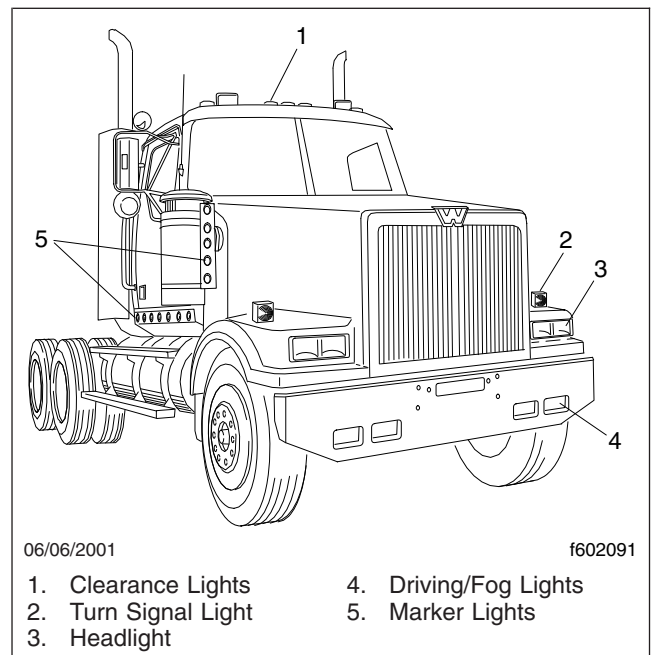

Fig. 23.12, Exterior Lights
11. Check the operation of all exterior lights. See **Fig. 23.12**.